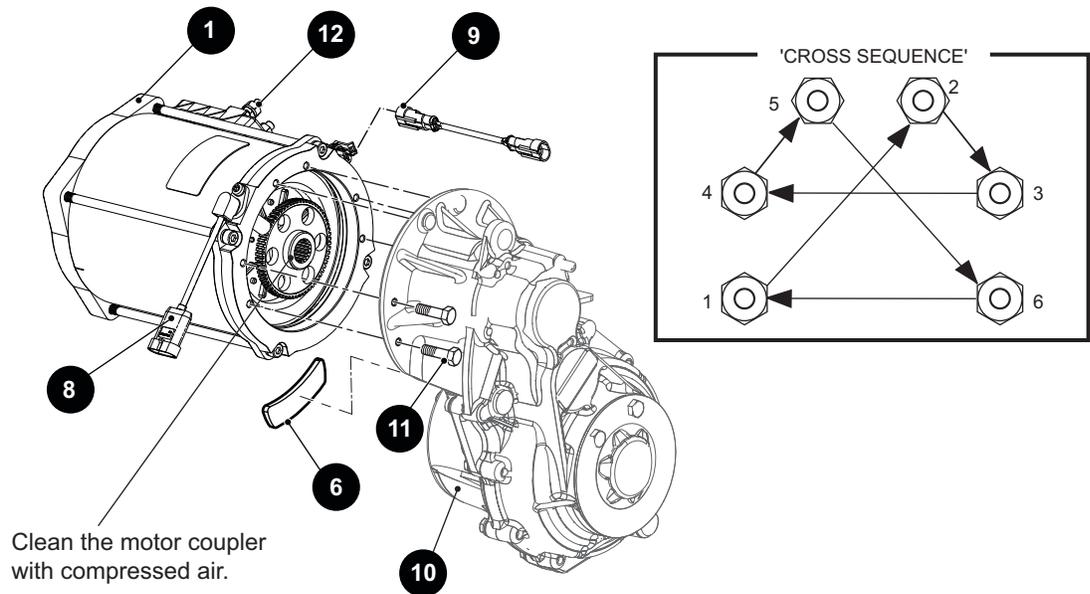

Fig. 8 Rear Motor Components
3. Disconnect the motor wires from terminals U, V, and W (12) (Ref. Fig. 8) (Ref. Fig. 9).
4. Disconnect the speed sensor (8) and temperature sensor (9). (Ref. Fig. 8).
5. Remove the six bolts (11) that secure the motor (1) to the axle housing, and carefully slide the motor straight out from the axle splines.
6. Remove the bolts (5), washers (4) and motor cover (3) from the motor (1).
7. Keep the motor cover (3) and hardware (5,4) to be used in assembly, or replace them if they are damaged.
3. Place the differential gasket (6), in the groove provided in the differential (10). Finger tighten the bolts (11) in a 'cross sequence' (Ref. Fig. 8), then tighten to 25 in. lbs. (2.82 Nm) increments of torque using the same 'cross sequence' pattern.
4. Reconnect the temperature sensor (9) and speed sensor (8) wiring harnesses.
5. Reconnect the U, V, and W terminals (12) (Ref. Fig. 8) (Ref. Fig. 9).